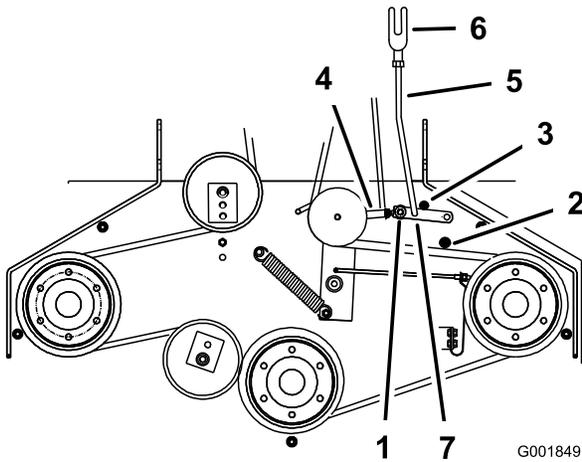

Figure 49
- Make sure the assist arm is against the rear assist arm stop on the deck (Figure 49).
- The assist arm should contact the front assist arm stop on the deck. If it does not contact, adjust the bellcrank so it is closer to the gusset (Figure 49).
8. To adjust the assist arm link, remove the hairpin cotter pin from the assist arm (Figure 49).
11. Install the assist arm link into the assist arm and secure it with the hairpin cotter pin (Figure 49).